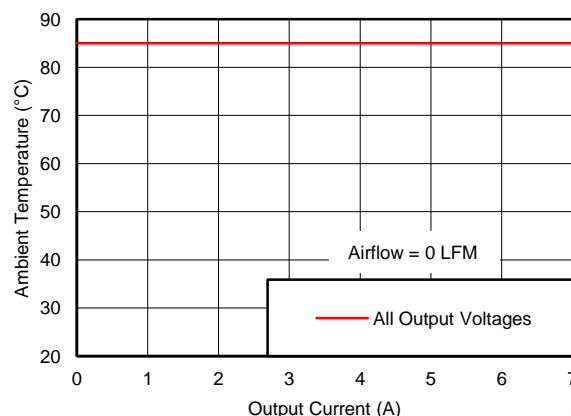

Figure 15. Safe Operating Area
- (2) The temperature derating curves represent the conditions at which internal components are at or below the manufacturer's maximum operating temperatures. Derating limits apply to devices soldered directly to a 100 mm \times 100 mm, 4-layer PCB with 2 oz. copper. Applies to Figure 15.